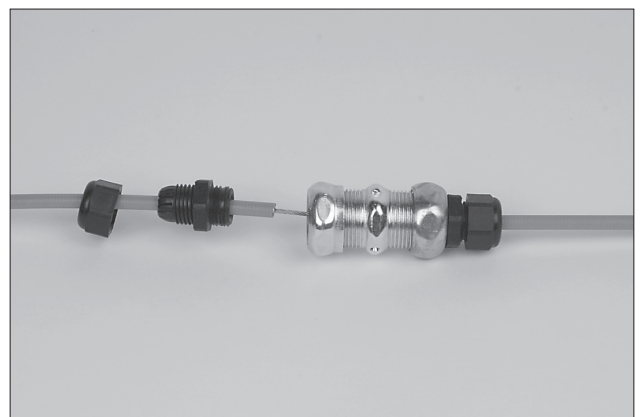

FIGURE 5-105
9. Tighten the compression union nut onto the union body, securing the flexible conduit insert in place. See Figure 5-105.